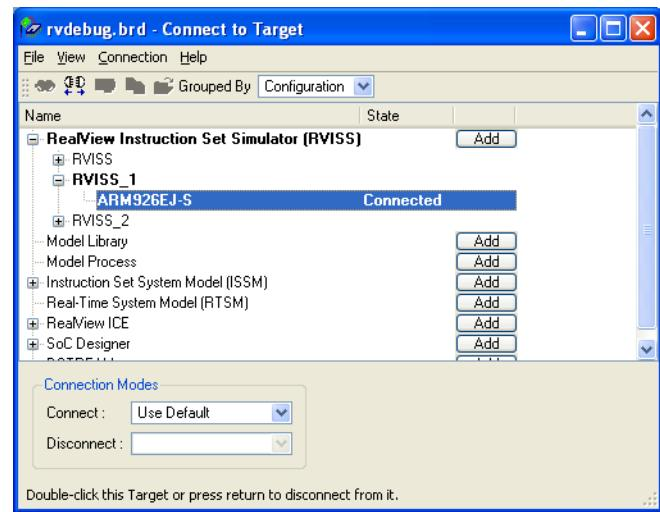

Figure 1-3 Connect to Target window (Configuration grouping)
- A Configuration grouping, which lists the targets for each Debug Configuration. Each Debug Configuration is listed under the related Debug Interface. RealView Debugger gives each Debug Configuration a default name, which you can change to a more meaningful name if required. Figure 1-3 shows an example: